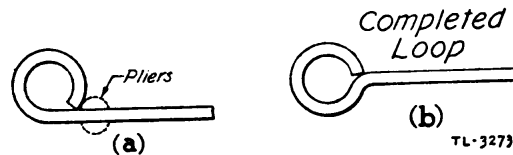

Figure 8
2. Loop bending.—It is sometimes necessary to bend loops where a wire is to be fastened around a screw. This is best accomplished with the aid of a pair of long-nose pliers. The loop is made by holding the extreme end of the wire in the points of the pliers, the left thumb resting on the wire and partly on the points of the pliers. Make a slight bend on the end of the wire, the amount of this bend will depend on the size of the loops required. Move the pliers slightly back on the wire and make another bend, continue until the loop is completely formed. Place the pliers at A, as in figure 8, shape the loop to look like the figure marked "completed loop."